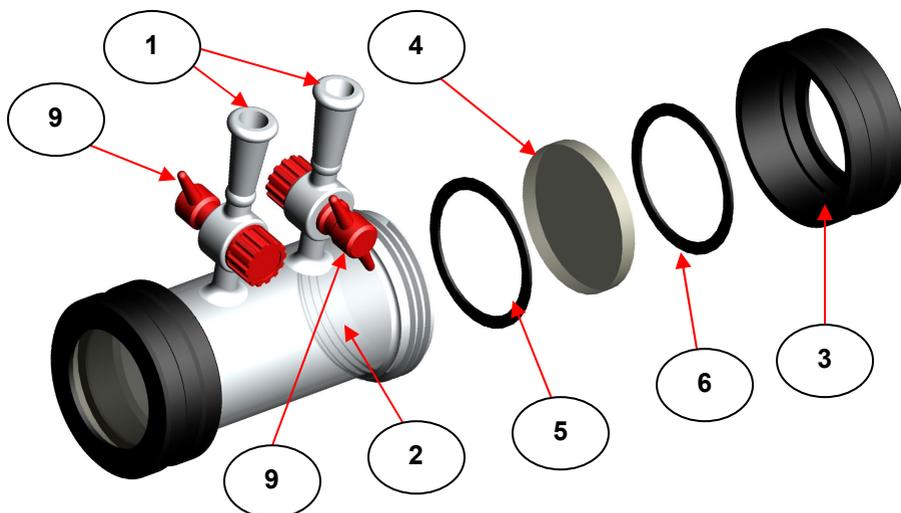

Fig 1. Sequence of Neoprene Circular Gasket Seals and Window Fitting in Storm™ 10 Pyrex™ Gas Cell
The 10cm Pyrex™ glass body gas cell allows for introduction of the gas by glass inlet tubes (1) (cone size 10/19) with closeable tapered PTFE taps on these glass inlet tubes. (See Fig 1.)
The pair of KBr windows supplied are fitted into the Storm 10 gas cell as seen from Fig 1.
Either of the gas inlet ports (1) (See Fig 1.) can be used to fill the cell with gas. The cone size for any connecting glassware (tubing or stoppers) are 10/19. Ensure that both taps (9) are open (tap handle is in parallel line to the inlet stem) when filling to maintain a flow. Close both taps as quickly as possible after filling to contain the gas in the cell.